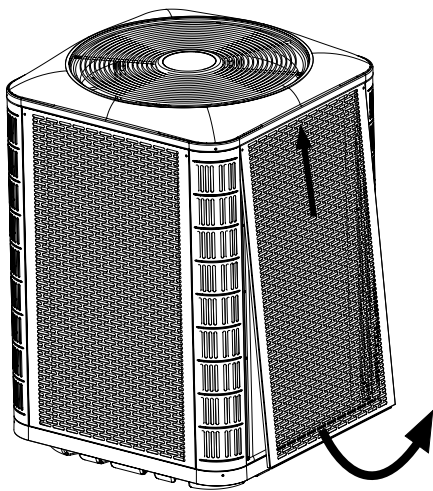

Figure 4. Panel Removal
2. Slide the panel up towards the top pan in order to clear the bottom flange from the base pan. See Figure 4, \(page 8\).